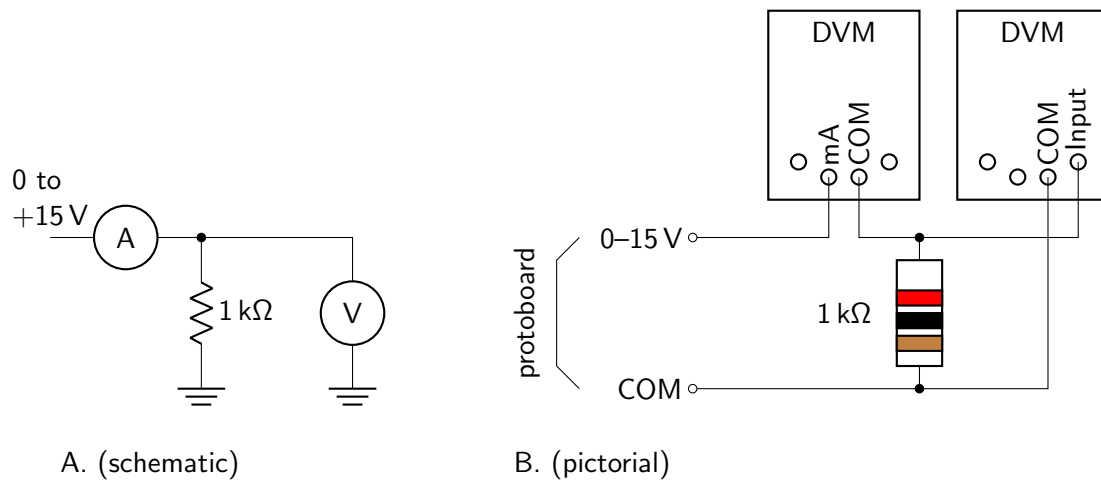
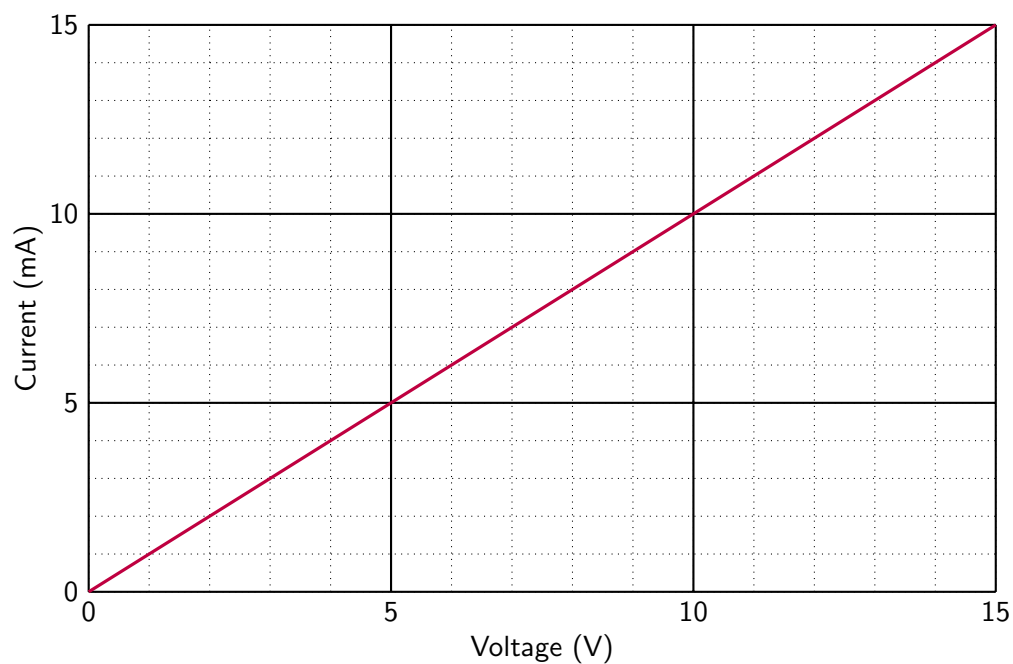

Figure 2: Simple circuit to learn about voltage, current, multimeters, and Ohm's law.
Figure 3: Graph paper for $1\text{ k}\Omega$ resistor measurements.
- (a) Rig up the circuit shown in Figure 2, using a pair of DMMs so that you can measure both voltage and current at the same time. Then, using the variable positive supply voltage (yellow wired, top rail) to drive the circuit, plot a set of measurements of current versus voltage on the handy graph paper of Figure 3.